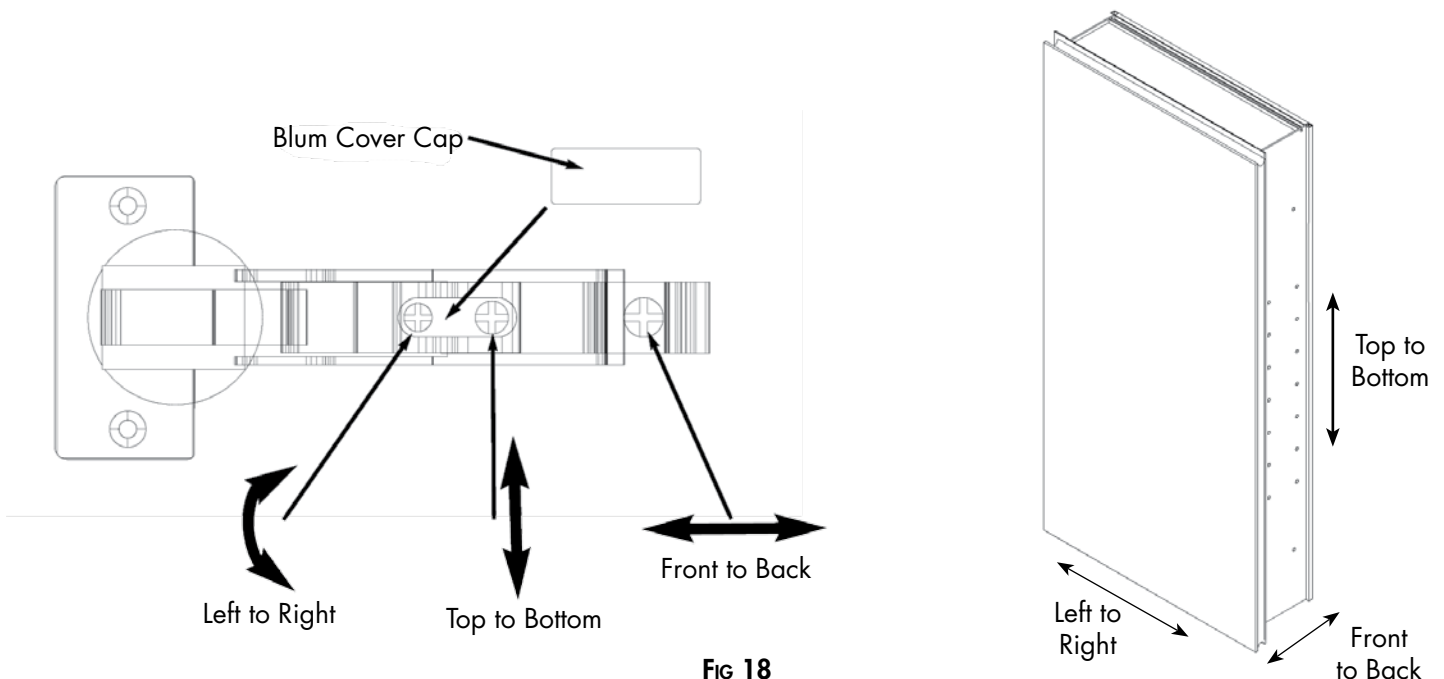

FIG 18
2. If adjustment is needed, remove cover cap and adjust according to Fig 18 below. Replace cover cap when finished.